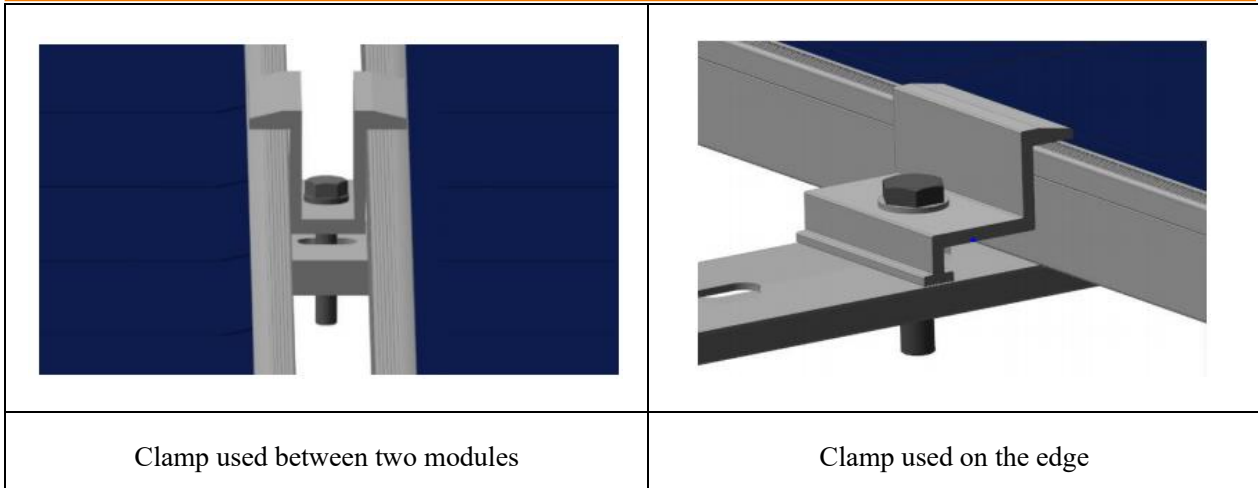

Fig. 13 Diagrammatic sketch of installation with clamps
- Clamps with two or more sizes of K (see Fig. 13) can be prepared in the design stage. These clamps with different sizes of K can be used in an alternating or intermittent manner to eliminate the impact of the accumulated tolerance.